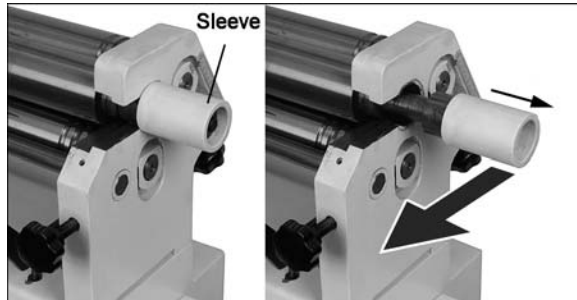

Figure 5
- To remove the tube from the stationary roll, pull the sleeve outward until it clears the end bracket; then pivot the roll outward, as shown in Figure 5.
- After the tube is removed, reposition the stationary roll, making sure the sleeve is pushed back in completely, as shown in Figure 5.
- Apply a light coat of oil to the exposed end of the stationary roll beneath the sleeve (shown in Figure 5).